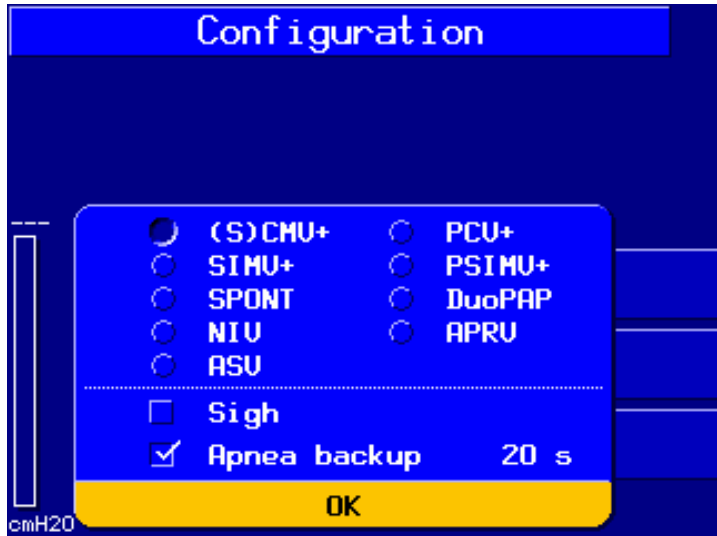

Figure E-5. Mode window, configuration mode
4. You will see the mode window (Figure E-5). Choose the desired default mode; this is the mode in which the ventilator will automatically start up. Enable or disable sigh and apnea backup as desired. Adjust the default apnea time. Confirm.